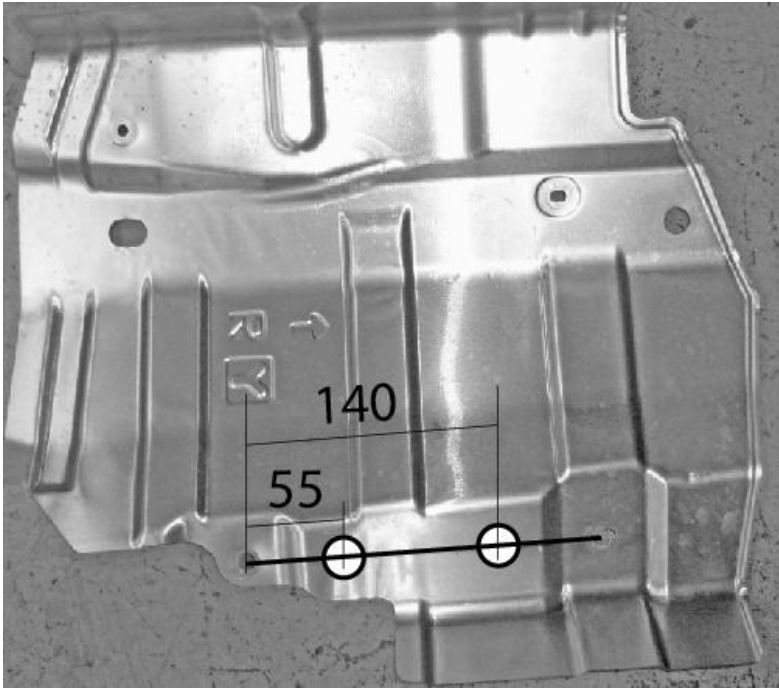

Figure 2 – Drill holes in the heat shield.
5. Drill holes x 2 (25mm) in the heat shield. Repeat the step for passenger side. Refer to Figure 2.